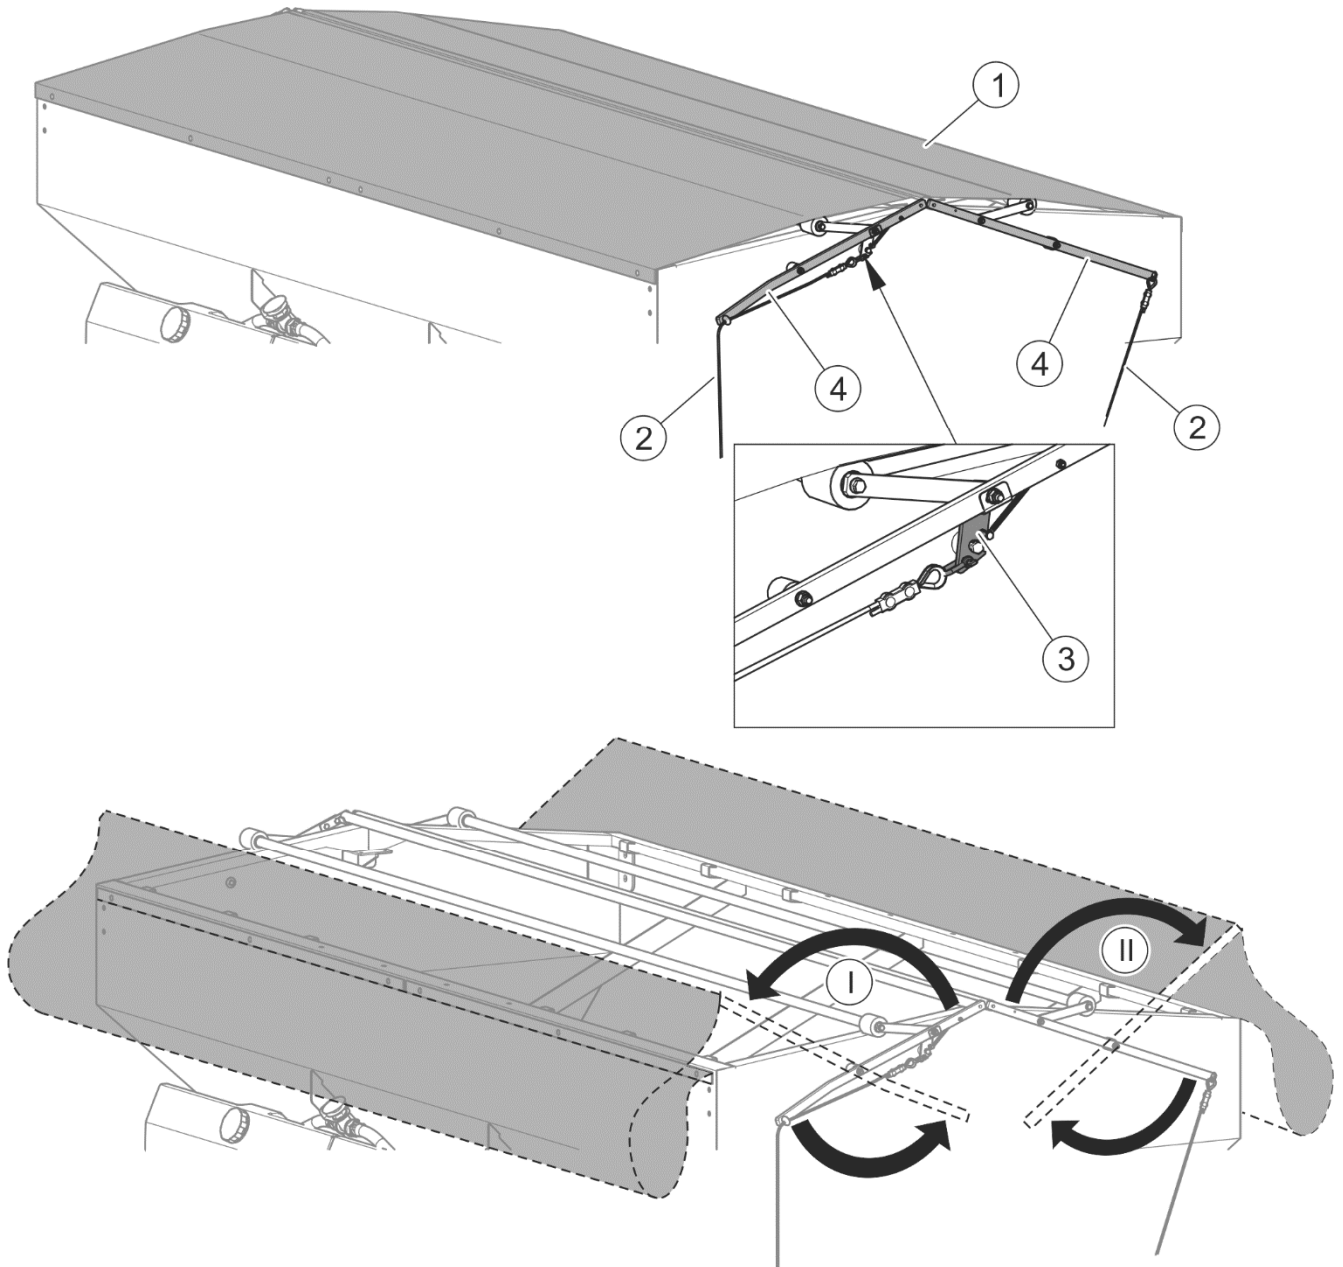

FIGURE 4.14 Raising the tank's tarpaulin cover
- hold the ladder (1) and remove securing cotter pin (3),
- lower the ladder (1).
Release pawl (3) by pulling a cord and raise tarpaulin cover by means of frame lever (4). Tarpaulin cover rising sequence (I) - (II) is shown in (FIGURE 4.14).
(1) - tarpaulin cover; (2) - pawl cord; (3) - pawl; (4) - lever
Before loading, check that there are no foreign objects (tools, stones etc.) in the tank. The tank should be loaded from above through the sieve that prevents lumps of material from entering the tank. When loading the tank, it is recommended to use a front loader or belt conveyor. Efforts should be made to evenly distribute the load in the tank in order to ensure proper stability of the sand spreader. Avoid throwing material into the tank from a great height. After loading, cover the tank with tarpaulin cover (FIGURE 4.14) and make sure that the pawl (3) is locked.